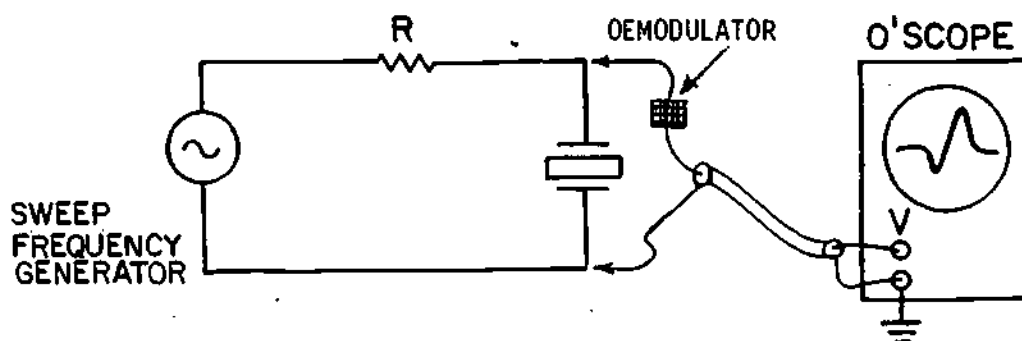

Figure 8
10. Lets conduct a simple experiment on paper to see how a crystal operates in the series resonant and parallel modes. Figure 8 shows a simple test circuit set-up.
This circuit consists of an RF sweep generator connected to a circuit consisting of a resistor in series with a crystal. As the generator frequency is swept from a point below the crystal's natural frequency to a point above it, the oscilloscope displays the pattern as shown in Figure 8.